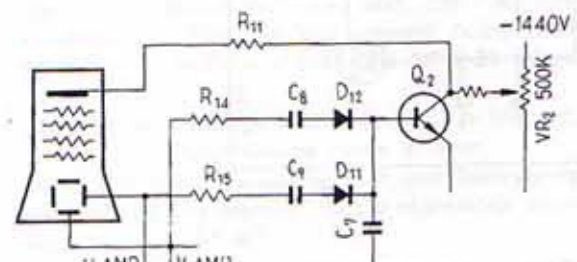

Fig. 8
6.5 SPOT KILLER CIRCUIT (Fig. 8)
The purpose of this circuit is to protect the CRT's fluorescent screen when there is no or almost no deflection, i.e. when the image on the screen is a spot or a straight line. Basically, this is done by a switching transistor inserted in the CRT cathode circuit; switching is performed by the V and/or H input signals to the scope in the following manner. Fig. 8 shows the simplified circuit diagram.